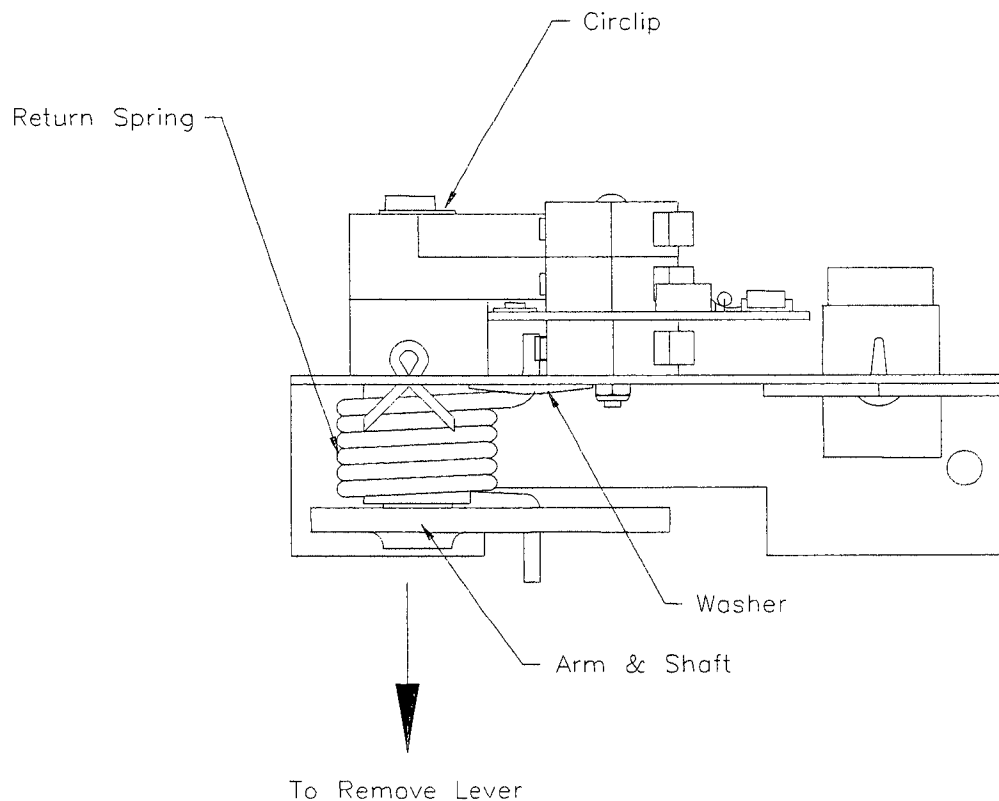

Figure 3-11
Use the following procedure to replace the lever return spring and refer to figure 3-11.
- Slide the shaft and spring out of the module as shown by arrow in figure 3-11.